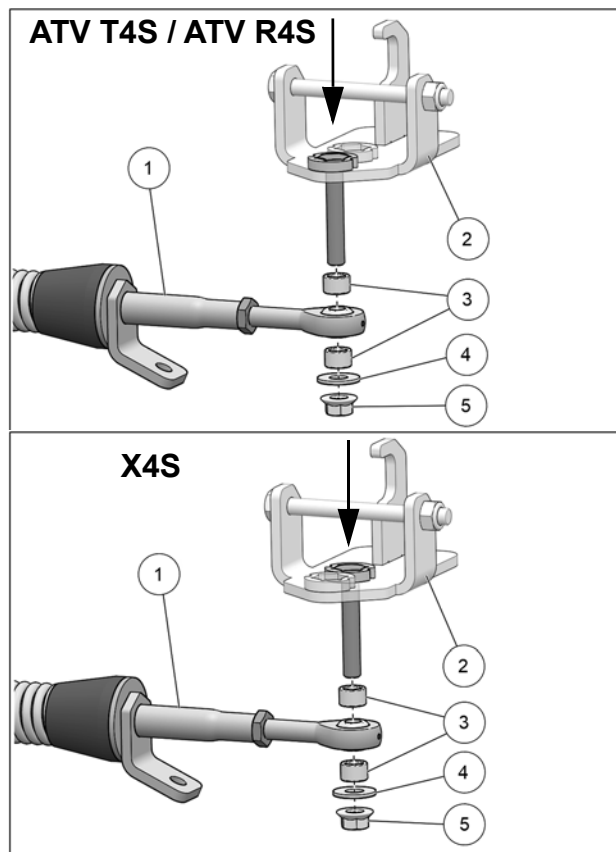

Fig. 10
9. Attach stabilizing rod (1) to anchor bracket (2), using spacer bushings (3), washer (4), and nut (5). Torque to 70 N•m [52 lb•ft]. See Fig. 10